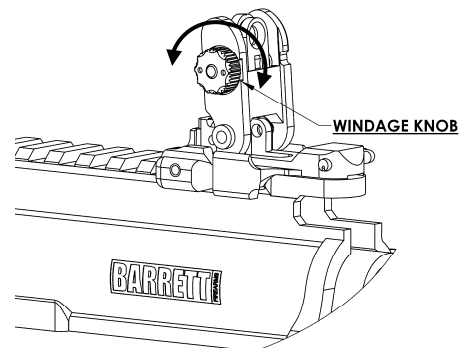

Figure 29.
2. To change horizontal point of impact of bullet, rotate windage knob located on the rear sight. This will move rear sight to left or right when zeroing. (Figure 29).